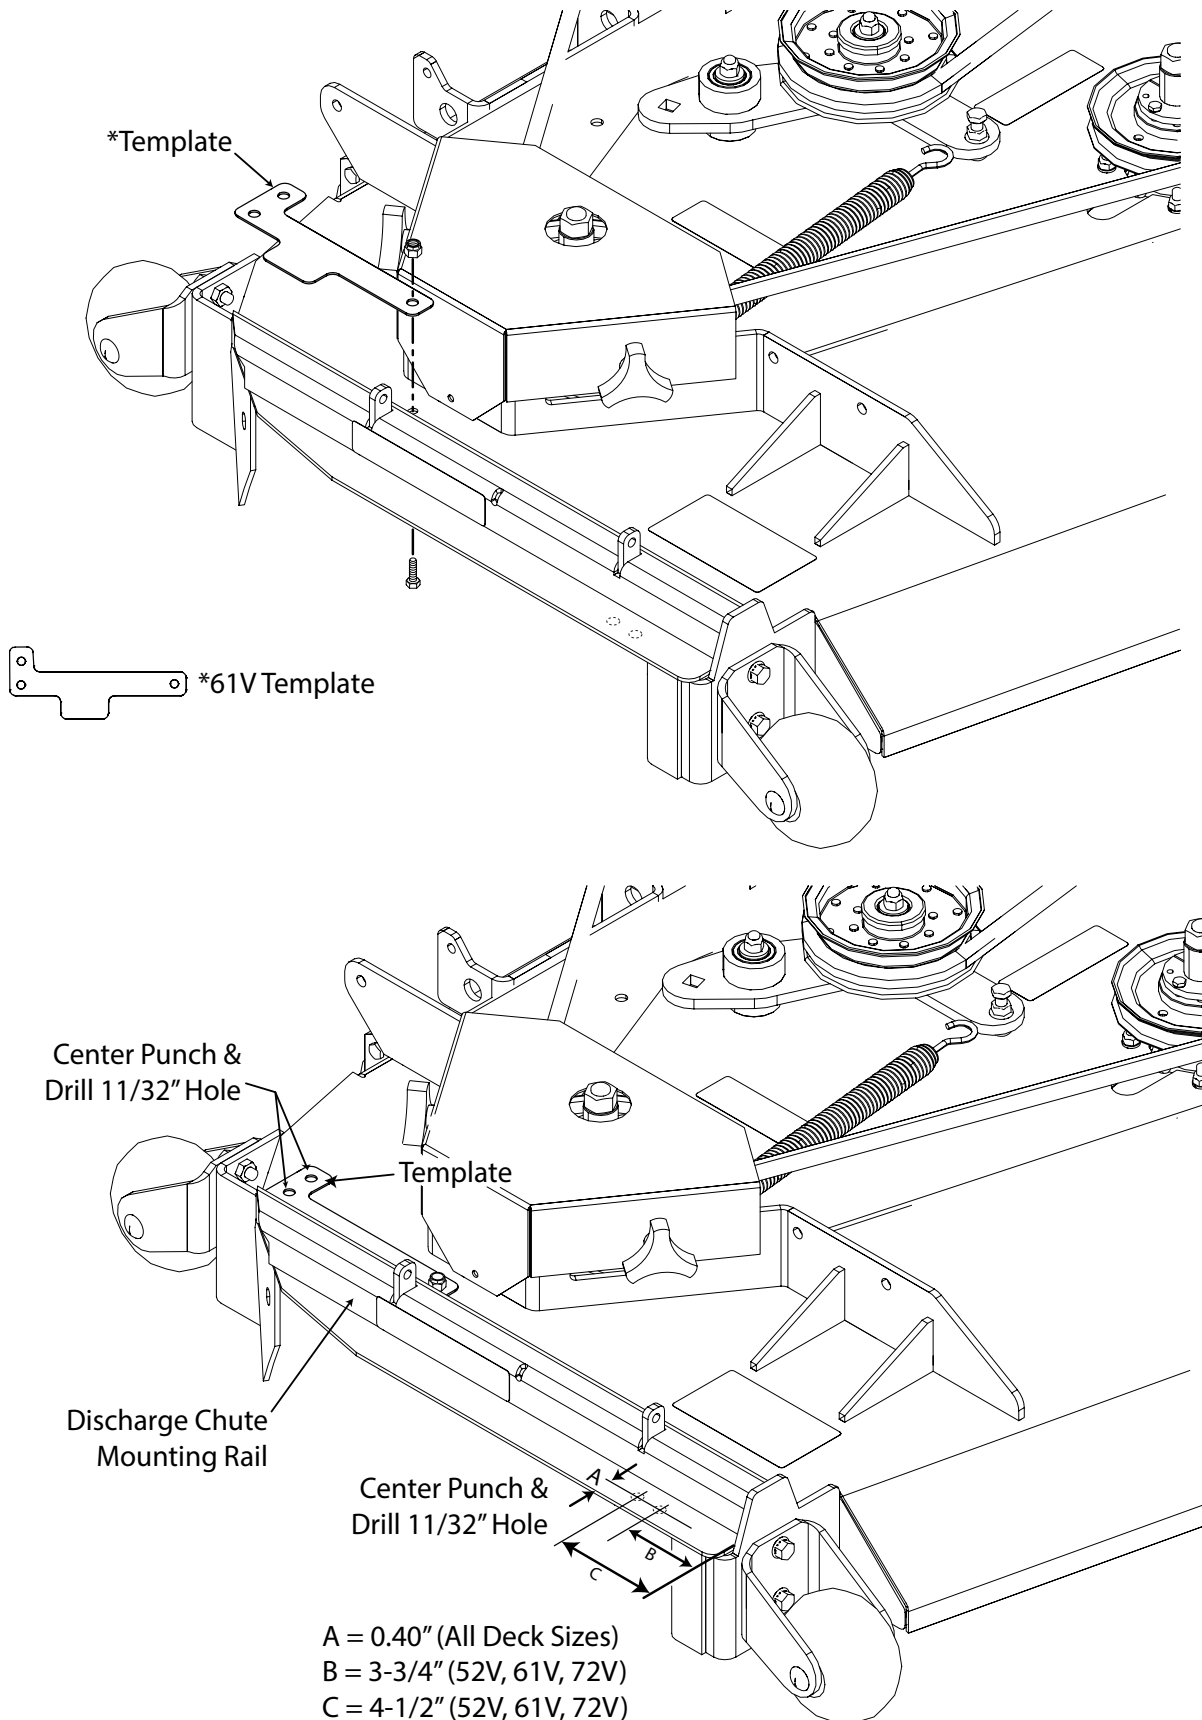

Figure 3-12. Locating and Drilling the Mounting Holes for STCII/SVRII/STTII/SCZII -61V
17. Install the E-OCDC pivot assembly to the cutter deck. Secure using two (2) 5/16-18 x 1" bolts and two (2) 5/16-18 flanged elastic stop nuts. Do not tighten the hardware at this time. See Figure 3-12.
18. Secure the lower adjustable linkage to the block off plate weldment using one (1) 5/16" -18 x 1-1/2", one (1) spacer, and one (1) 5/16" elastic stop nut. See Figure 3-12.